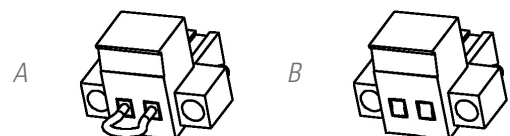

Fig. 14. Connector for external EPO.
- The device is dispatched from the factory with its EPO circuit set to closed (NC) by default. In other words, the UPS will cut the output power supply, emergency power off, when the circuit is opened:
- Either by removing the female connector from the socket where it is inserted. This connector has a cable connected as a jumper that closes the circuit (see Fig. 14-A).
- Or by pressing the button external to the device belonging to the user installed between the terminals of the connector (see Fig. 14-B). The connection on the button must be in the normally closed contact (NC), so it will open the circuit when activated.